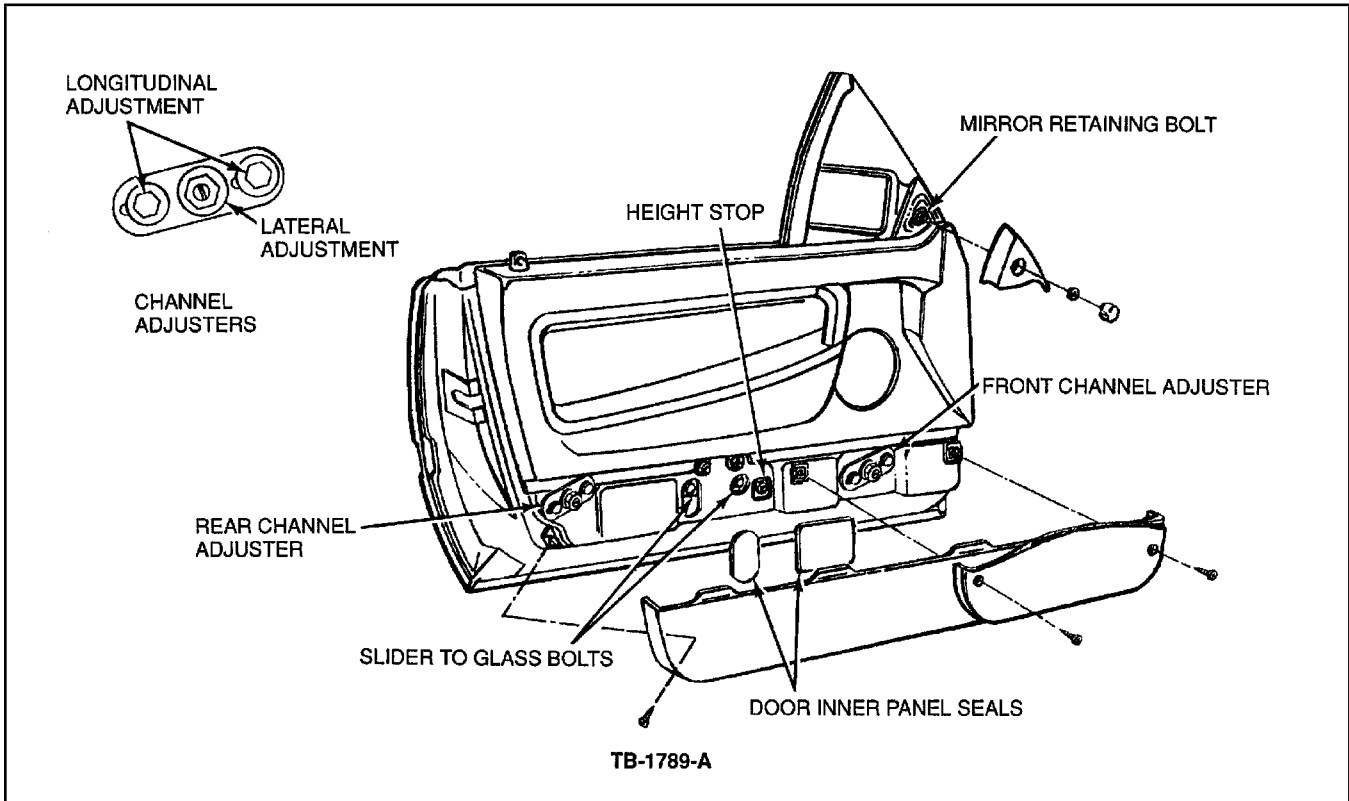

Figure 3 - Article 90-25-7
2. Remove the lower door trim, Figure 3.
3. Remove the mirror bezel and loosen the mirror retaining nut, Figure 3.
4. Loosen the two (2) screws on the adjuster plate at the bottom of the front window channel, Figure 3.
2. Loosen the two (2) longitudinal adjustment screws on the adjuster plate at the bottom on the channel, Figure 3.
4. Loosen the lateral adjuster screw locknut, Figure 3, and turn the adjuster to relieve any strain on the channel.